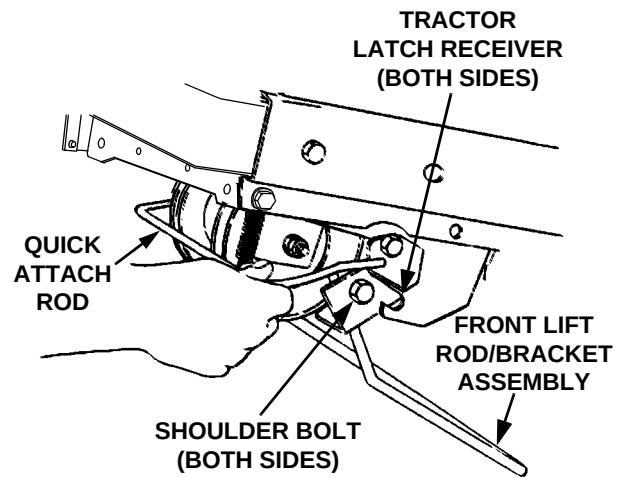

Figure 6-16
9. From the front of the tractor, push downward and hold the tractor quick-attach rod. Pull the front lift rod/bracket assembly forward to release the shoulder bolts on each side of the bracket from the left and right tractor latch receivers. Release the tractor quick-attach rod (Refer to Figure 6-16).